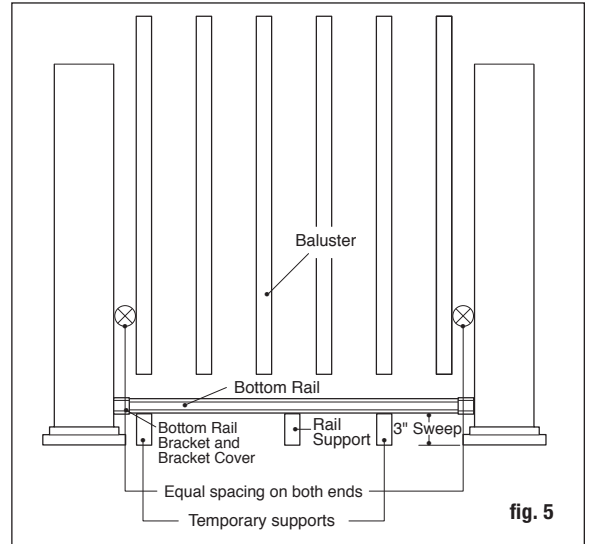

fig. 5
Step 6 Measure the distance between installed post sleeves to determine the length of the top and bottom rails. Place the bottom rail in position next to the posts and adjust so the distance between the first baluster hole and post is greater than 2" and equal on both ends (refer to fig. 5). Mark the rail. Cut the bottom rail. Cut the top rail to the same spacing and length.
Step 8 Place the line rail bracket covers and line brackets on the ends of the bottom rail. Install the rail support and prop the bottom rail between the posts using blocks cut to size. Check the rail for level. Using the line bracket as a guide, mark the screw positions on the post sleeve and rail on both ends. Pre-drill 1/8" pilot holes through the post sleeve and rail. Attach the line bracket to the post sleeve using four #8-15 x 2" - #2 square drive pan head screws and then attach line bracket to rail using two #10-16 x 3/4" - #2 square drive pan head self-drilling screws (fig. 5).